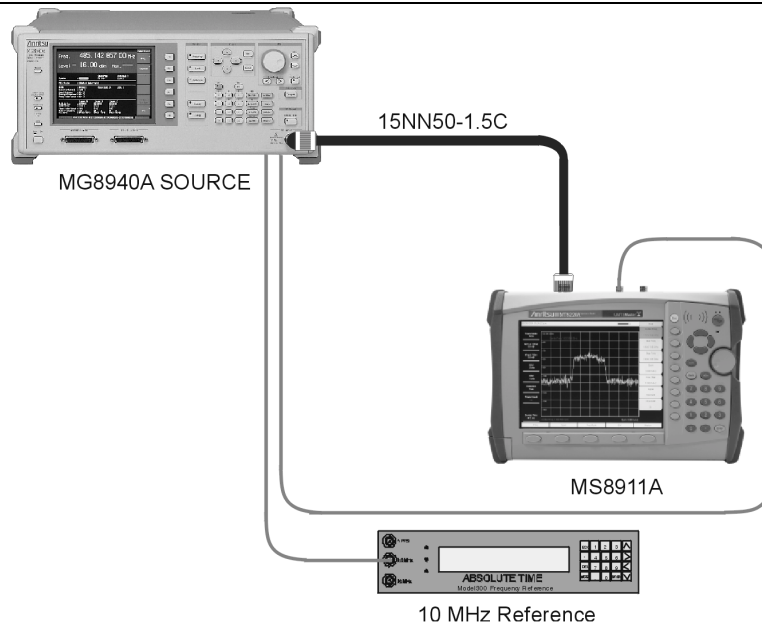

Figure 5. Residual Modulation Error Ratio (MER) Setup
1. Connect the 10 MHz frequency reference source to the Anritsu MG8940A and MS8911A according to Figure 5.
4. Press the **On/Off** key to turn on the MS8911A and wait until the measurement display appeared then press the **Shift** key then press the **Mode** (9) key to activate the mode selection menu.
6. Press **Shift** key, **Preset** key (1), and then the **Preset** soft key.